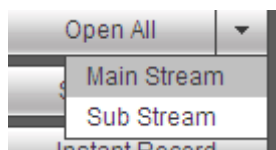

Figure 5-10
- Section 3: Open all. Open all button is to enable/disable all-channel real-time monitor. Here you can select main stream/sub stream too. See Figure 5-10.